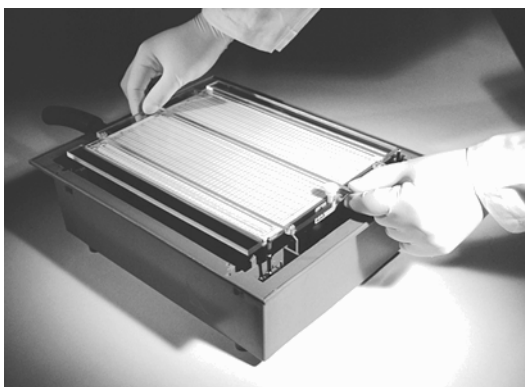

Fig 2 Placing the positioner over the gel and cooling plate
- 1 Place the Multiphor II Buffer Strip Positioner over the gel and cooling plate (Fig 2).